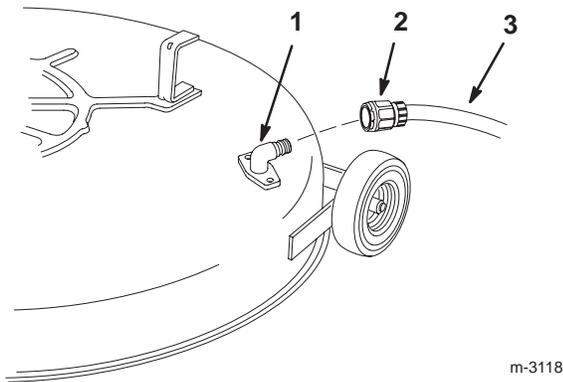

Figure 48
- Attach the coupling to the end of the mower washout fitting and turn the water on high (Fig. 48).